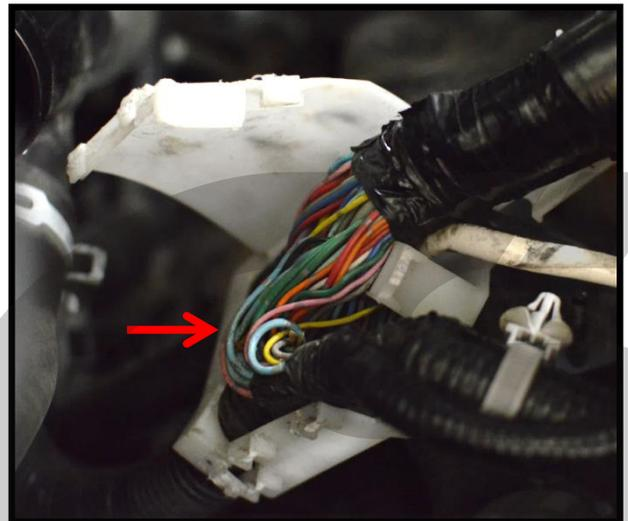

Figure 2c
- c) **Remove the white plastic cover on the wiring harness.** With the upper cover open you have access to the lower cover. The lower cover has a secondary snap clip between the wire bundles, shown with the red arrow in Figure 2c. Just pull this cover open with shear force. Then remove the white plastic completely.